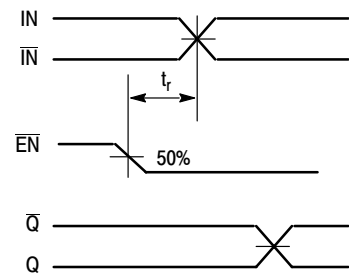

Figure 5. Release Time
20. The release time is the minimum time that \overline{EN} must be deasserted prior to the next IN/ \overline{IN} transition to ensure an output response that meets the specified IN to Q propagation delay and output transition times (see Figure 5).